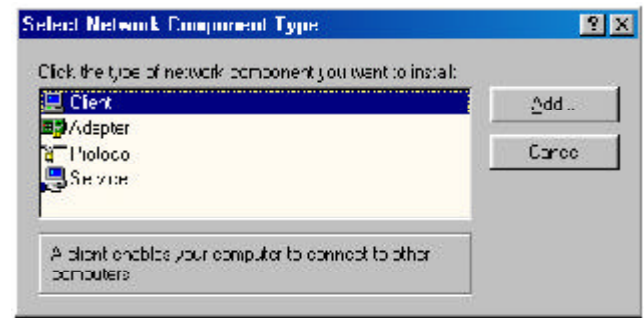

Fig. 4.8
Step 3 Select **Client** and click **Add**. See *Fig. 4.8*